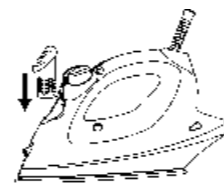

fig.5
4. Replace the Anti-calc box into the filling hole as shown in Fig.5.